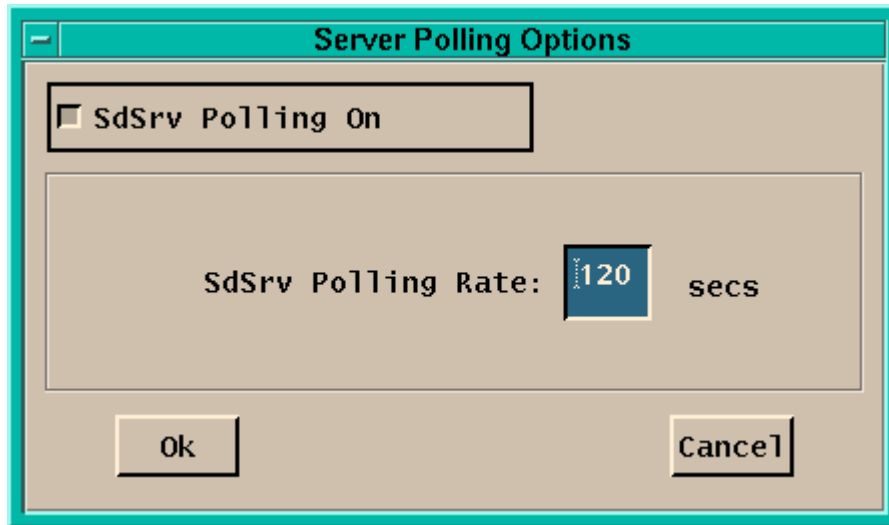

Figure 26.28.4-1. Science Data Server - Server Polling Options
The ECS Science Data Server operator GUI, shown in Figure 26.28.4-1, has two tabs that provide access to each one of the components' screens.
- **Options** - This menu includes the *System Settings* item that opens the Server Polling Options window. Polling of the data server can be switched On/Off and the SdSrv Polling rate can be adjusted through this window shown in Figure 26.28.4-1